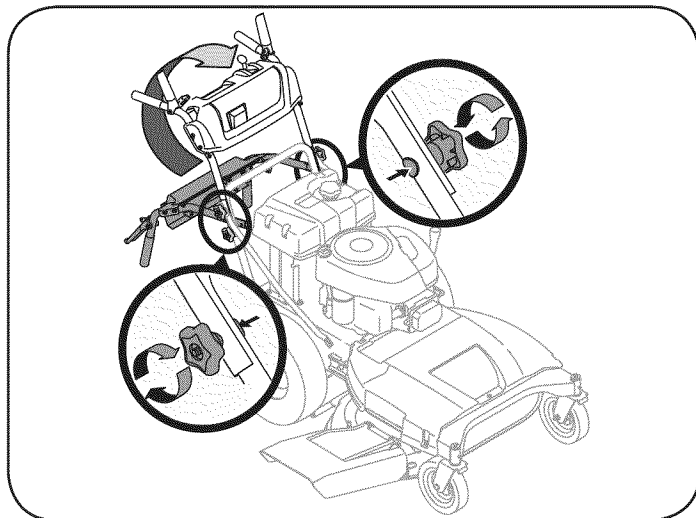

Figure 4
2. Pivot the upper handle into operating position. Be careful not to crimp cables. See Figure 4.
4. Tighten the upper and lower star knobs and carriage screws to secure the upper handle to the lower handle, See Figure 4.